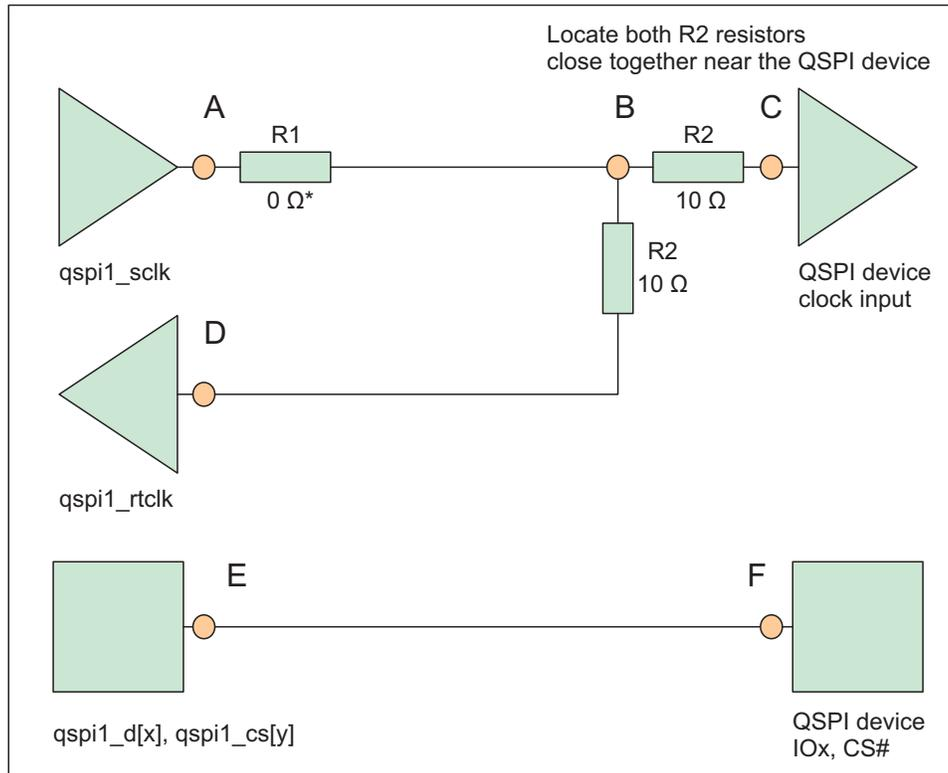

图 8-29. QSPI Interface High Level Schematic
- 50 Ω PCB routing is recommended along with series terminations, as shown in 图 8-29.